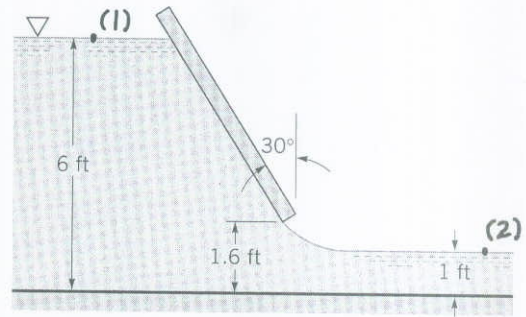

FIGURE P3.112
3.112 Water flows under the inclined sluice gate shown in Fig. P3.112. Determine the flowrate if the gate is 8 ft wide.